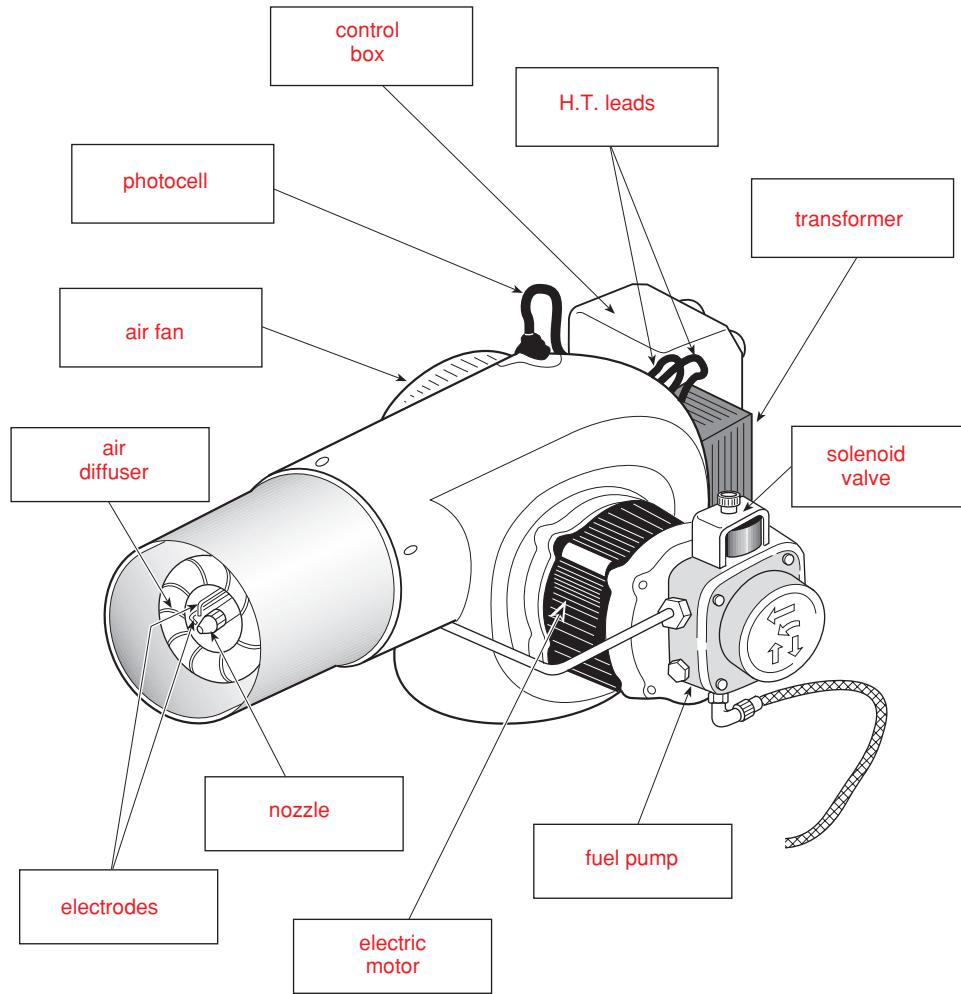

Figure 22
(54) Use the spaces provided to name the arrowed components on the pressure jet burner shown in Figure 22. (Page 257.)